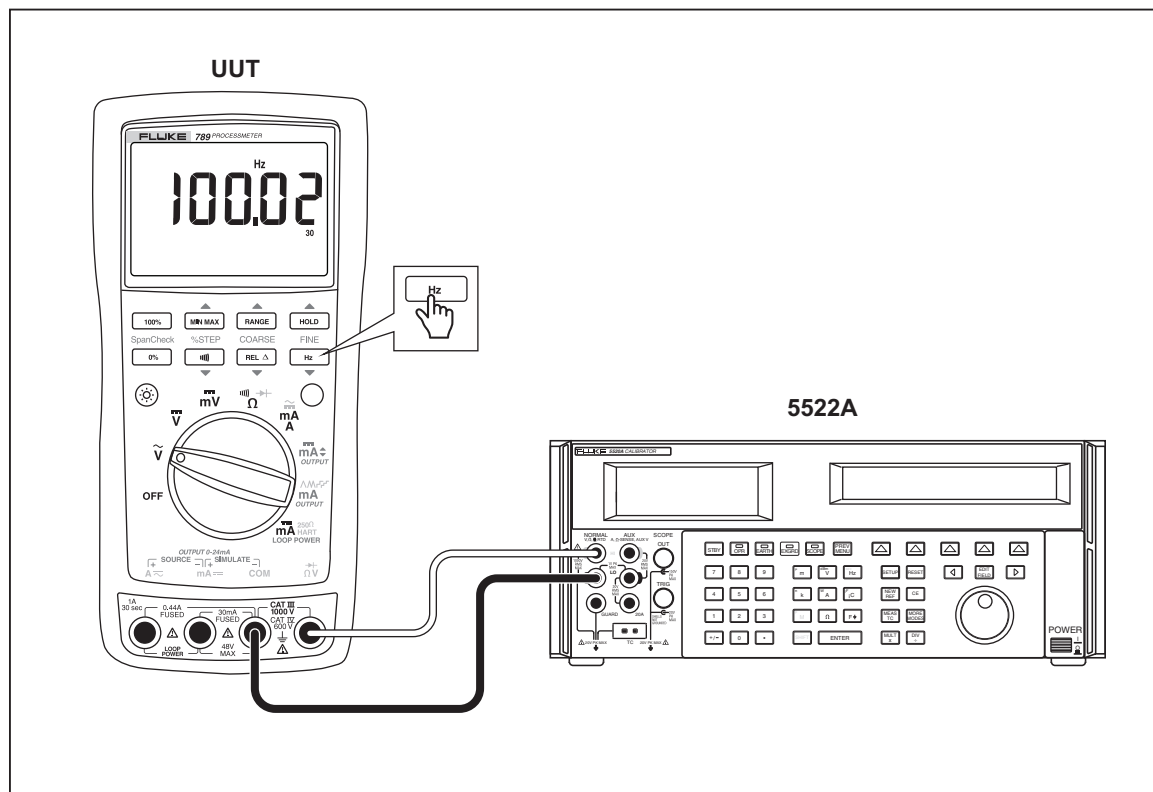

Figure 10. Frequency Measurement Test Connections
4. Connect the calibrator to the **COM** and  $\Omega V$  terminals on the UUT as shown in Figure 10.